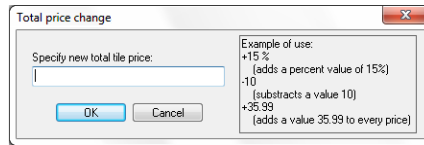

Fig. 383 – changing the final price of a selected tile
- **Change price** – allows to modify a price for any tile in the User Database or in a producer's one (available also under the **[F3]** key); if the user does not select a particular tile, then the prices will be changed for all tiles in the selected collection; if an individual tile is selected, then only its price will be changed (Fig. 383).